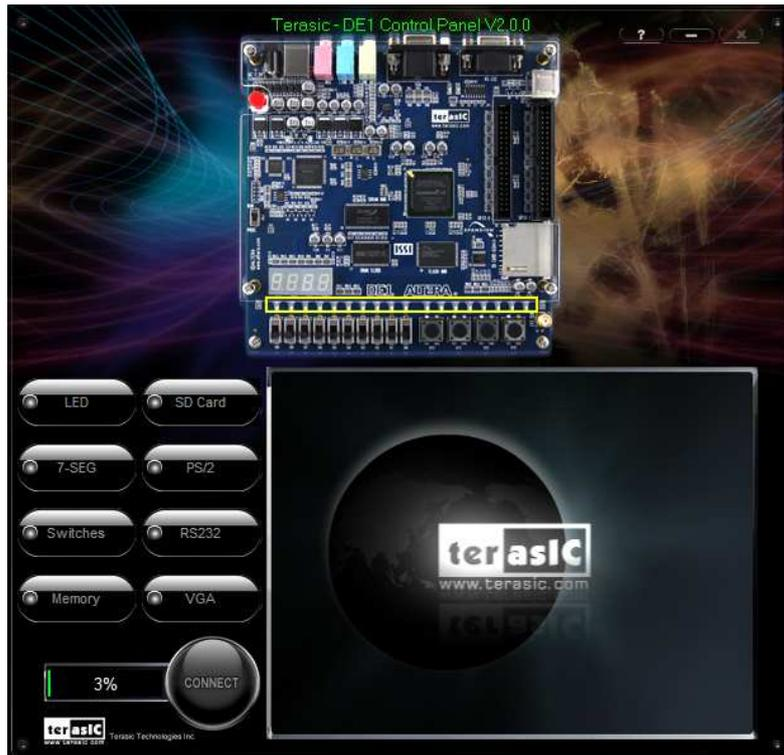

Figure 3.1. The DE1 Control Panel.
4. Start the executable DE1_ControlPanel.exe on the host computer. The Control Panel user interface shown in Figure 3.1 will appear.